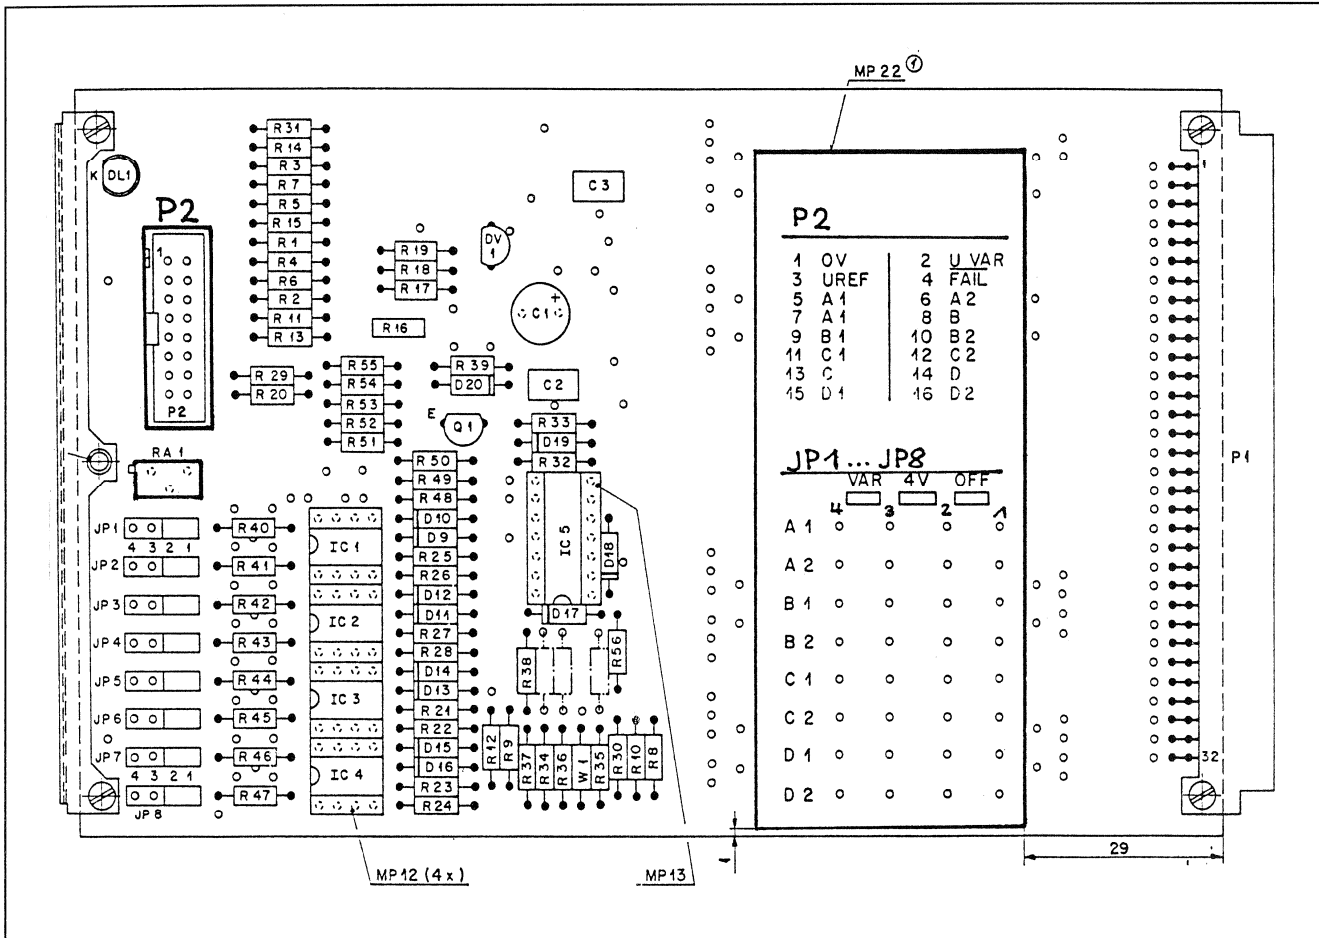

Fig. 5 Diodes/Power alarm 2 board (1.915.109) with specifications for jumper settings JP1...JP8 and pin assignment of connector P2 with the monitored voltages.
**Fig. 5** The entire power supply system is redundant. The CHANGE-OVER unit connects each transformer to its standby transformer and connects the higher of the two voltages to the mixing console. In this example the host processor rack is installed in the mixing console.
The pin assignment of P2 to the voltages A1...D2 is specified in Fig. 5.
- Repeat the procedure for all other converter pairs. Main boards (\*.1) are to be aligned to +2.9V, standby boards (\*.2) to +2.7V. The pin assignment of P2 is shown in Fig. 5.